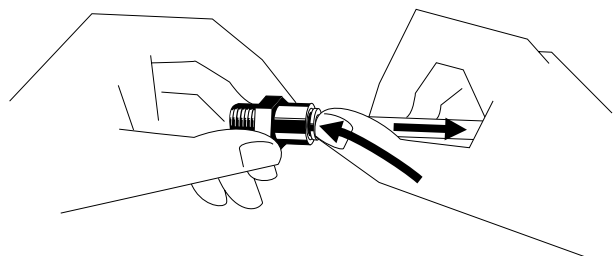

Figure 11
4. Release all the pneumatic tubes from the part to be replaced (see a) "Removing the pneumatic tubes", page 11, Fig. 11).
4. Release all the pneumatic tubes from the part to be replaced (see a) "Removing the pneumatic tubes", page 11 - Fig. 11).
6. Remove the cover screw (1) and the O-ring (2) from the flowmeter tube (4) with a small screwdriver.
7. Tilt the flowmeter until the "floating" ball (3) rolls out of the flowmeter tube (4).
8. Clean the "floating" ball (3) and the inside of the flowmeter tube (4) with a clean cloth.